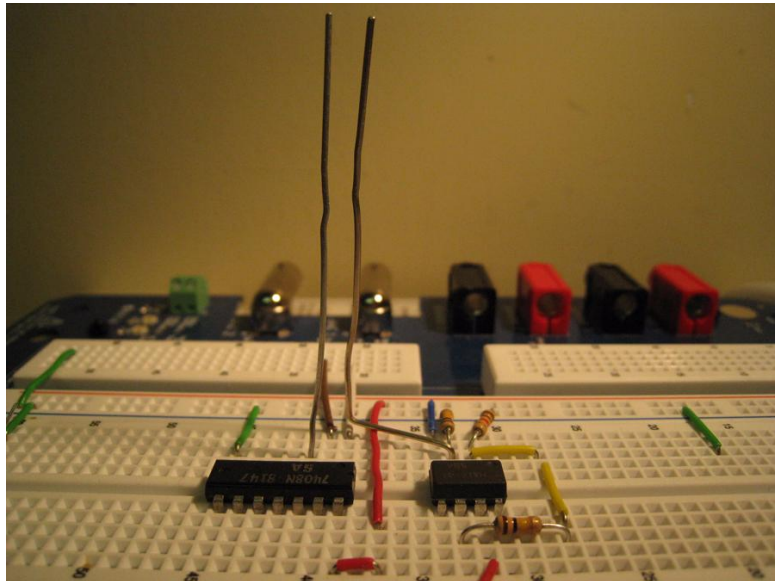

Figure 2. RF Transmitter-Receiver circuit with Antennas
2. Insert the short end of the paper clip into a pin socket. The midsection supports the antenna on the protoboard, so you can rotate the antenna about the short end. The long side sits vertically and is parallel to the transmitter antenna (see Figure 2).